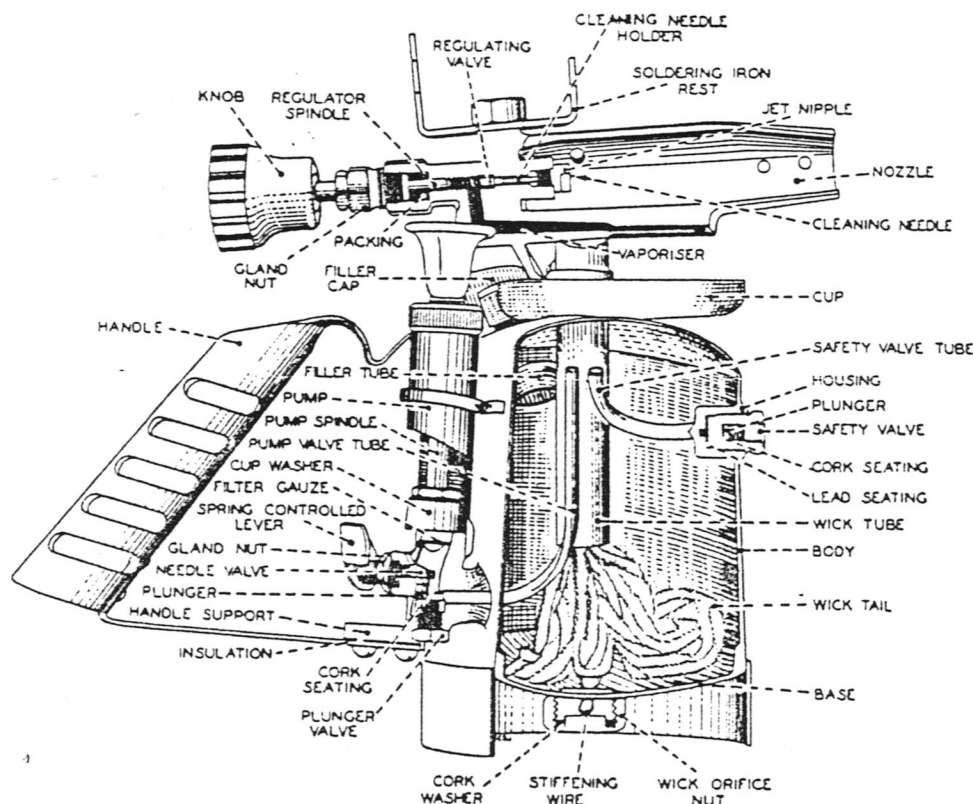

FIG. 4.—LAMP, TORCHBLOWING, NO. 2
12. *Lamp, Torchblowing, No. 2.*—Fig. 4 shows a sectional view of the lamp and it can be seen that the construction resembles that of the No. 1. The vaporizing chamber, however, is of different construction, consisting of a passage formed in the base of the barrel of the nozzle. The body is tested to withstand a pressure of 200 lb. per sq. in. The approximate size is 7 in. high and 10½ in. long.